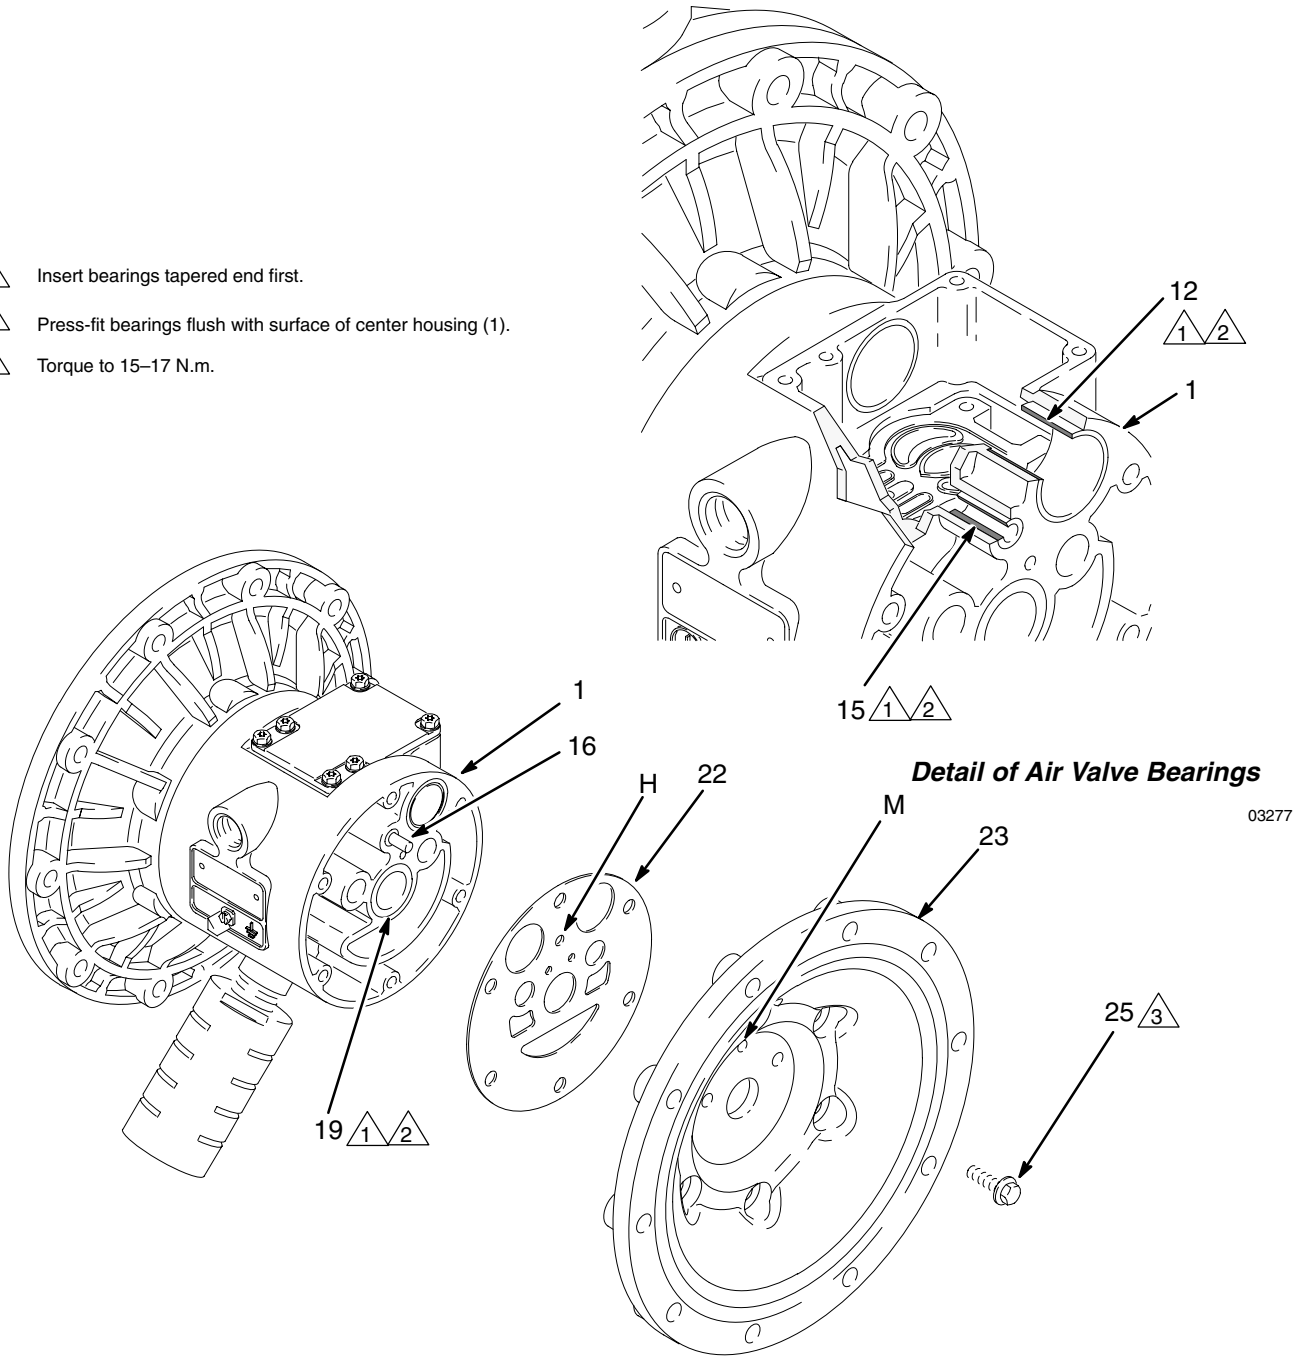

Fig. 14
**NOTE:** If you are removing only the diaphragm shaft bearing (19), skip step 4.
5. Using a 10 mm socket wrench, remove the screws (25) holding the air covers (23) to the center housing (1). See Fig. 14.
6. Remove the air cover gaskets (22). Always replace the gaskets with new ones.
7. Use a bearing puller to remove the diaphragm shaft bearings (19), air valve bearings (12) or pilot pin bearings (15). Do not remove undamaged bearings.
1. If removed, install the shaft u-cup packings (402\*) so the lips face **out** of the housing (1).
2. The bearings (19, 12, and 15) are tapered and can only be installed one way. Insert the bearings into the center housing (1), **tapered end first**. Using a press or a block and rubber mallet, press-fit the bearing so it is flush with the surface of the center housing.
4. Align the new air cover gasket (22) so the pilot pin (16) protruding from the center housing (1) fits through the proper hole (H) in the gasket.
5. Align the air cover (23) so the pilot pin (16) fits in the middle hole (M) of the three small holes near the center of the cover. Install the screws (25), handtight. See Fig. 14. Using a 10 mm socket wrench, torque the screws oppositely and evenly to 15–17 N.m.